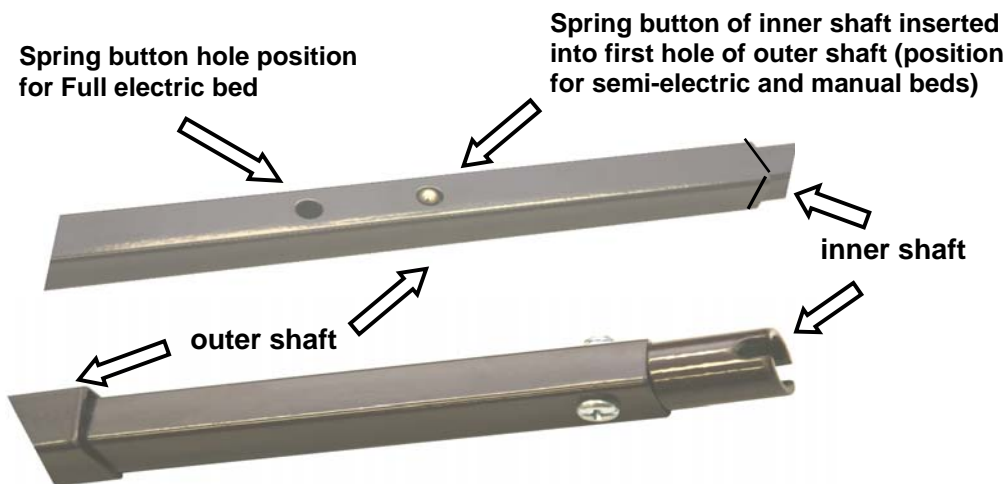

Figure 11: Cut-away detail of drive shaft: inner shaft already placed in outer shaft
3. Connect the drive shaft to the bed by attaching either end of the drive shaft to the headboard gearbox. See Figures 11 & 12.